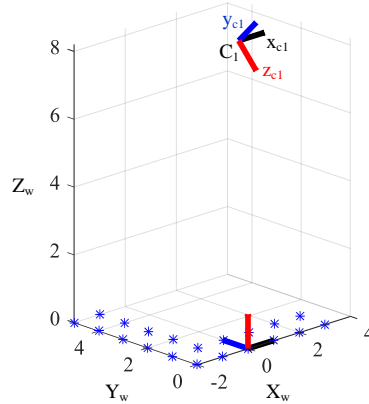

Fig. 1 Camera model and calibration
- a) Camera Model. Write a program (CameraModel.m) to transform the 3D world coordinates ( $X_w Y_w Z_w$ ) of the 20 calibration points (represented by ‘\*’ in Fig. 1 and Table 1) to the 2D image coordinates ( $u_d v_d$ ) using Tsai’s camera model Steps 1 to 3, which account for radial lens distortion. Use  $[\mathbf{R}_x(135^\circ)]$ ,  $\mathbf{T}=[3 \ 3.5 \ 7.5]^T$ ,  $f=1.3$ ,  $k_1=0.01$  to illustrate your solutions, you may assume variables/parameters are in consistent physical units. Determine and show these 20 feature points in the  $u_d v_d$  plane. Save the ( $X_w, Y_w$ ), ( $u_u, v_u$ ) and ( $u_d, v_d$ ) values in camera\_calibration\_data.mat for b).